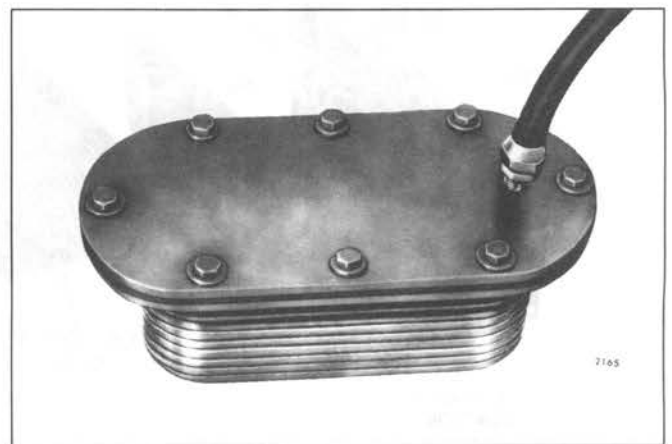

Fig. 7 – Oil Cooler Core Prepared for Pressure Check
1. Make a suitable plate and attach it to the flanged side of the oil cooler core. Use a gasket made from rubber to ensure a tight seal. Drill and tap the plate to permit an air hose fitting to be attached at the inlet side of the oil cooler core (Fig. 7).